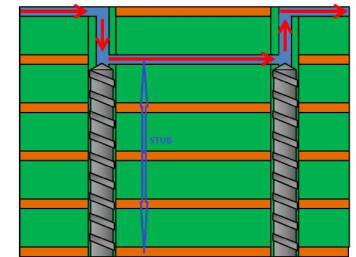

Figure 2-4. Long Vias With Back-Drilled Stubs
1. Use long vias with back-drilled stubs: Figure 2-4 in the document shows an example of long vias with back-drilled stubs. This layout technique helps to minimize crosstalk and improve signal integrity.
- Longer vias resonate at lower frequencies and increase insertion loss, keep these stubs as short as possible. TI recommends keeping via stubs to less than 15 mils. Longer stubs must be back-drilled (see Figure 2-4).